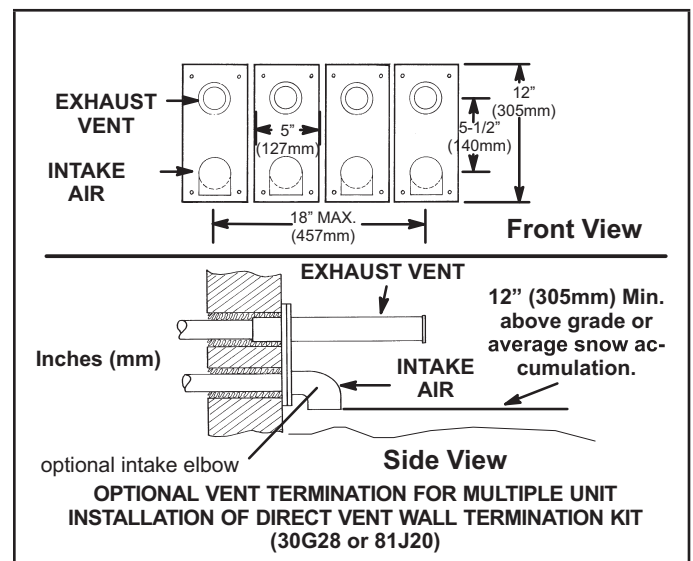

Figure 41
- 8 - A multiple furnace installation may use a group of up to four terminations assembled together horizontally, as shown in figure 41.